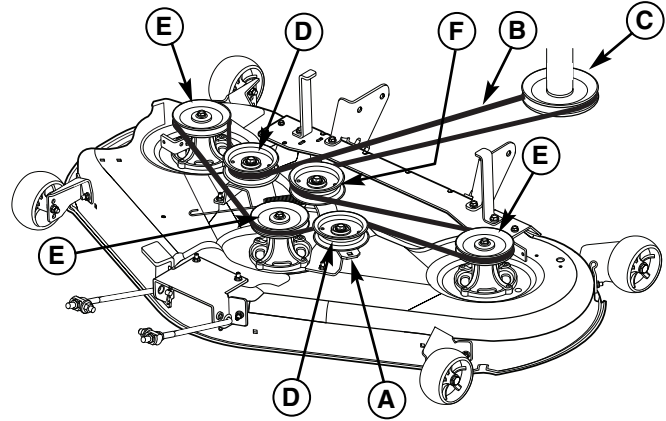

Figure 13. Mower Belt Routing
3. Insert ratchet into 3/8" (9.5 mm) square in idler pulley arm (A, Figure 13) and pull to release belt tension. Remove the mower belt (B) from engine drive pulley (C).
2. Install the front hitch rods and secure with hair pin clips (B).
3. Slide the mower deck backwards and connect the rear lift arms to the mower deck. Secure with hair pin clips (A).
7. Insert ratchet into 3/8" (9.5 mm) square hole in idler pulley arm (A, Figure 13) and pull to release belt tension. Install the mower belt (B) as shown in Figure 13.